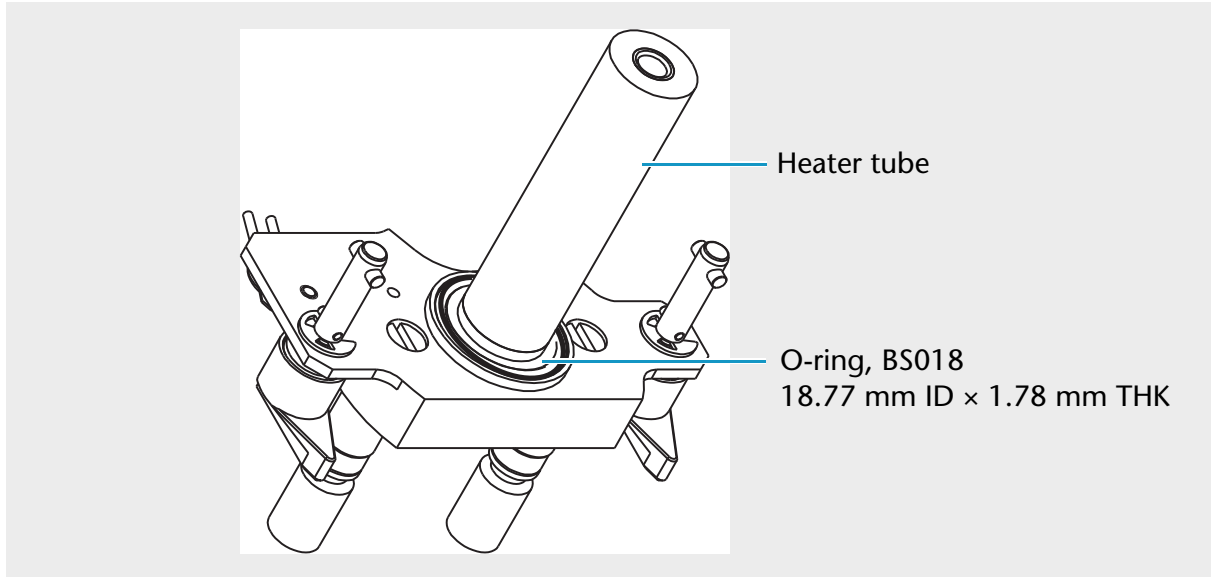

Fig. 59 View of O-ring installed in the underside of the probe heater base
Clean the inside of the heater tube with a cotton swab soaked in [50:50] methanol/water. See Figure 59 on page 86.
1. If you removed the O-ring from the underside of the probe heater base, reinstall it. See Figure 59.